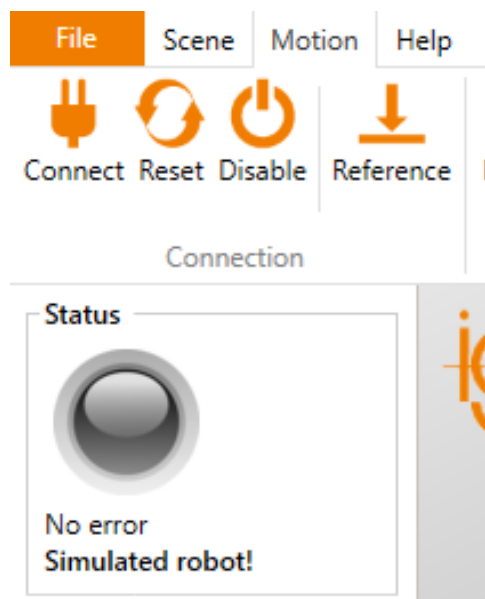

Figure 16: Buttons for connecting to the hardware, resetting errors and activating the motors, referencing and "Status" display.
The real robot can be controlled in the same way as the simulated one, only the hardware must first be connected and activated by clicking the "Connect", "Reset" and "Activate" icons in the "Physical Robot" button group in the "Motion" tab (see Fig. 16). Depending on the type of robot the axes must then be referenced.
2. Press the buttons "Connect", "Reset" and "Activate" (see fig. 16).
3. Click the "Reference" button (Fig. 16) in the button group "Physical Robot" in the "Motion" tab (or "Robot Reference" in the "File" tab) to open the referencing window.